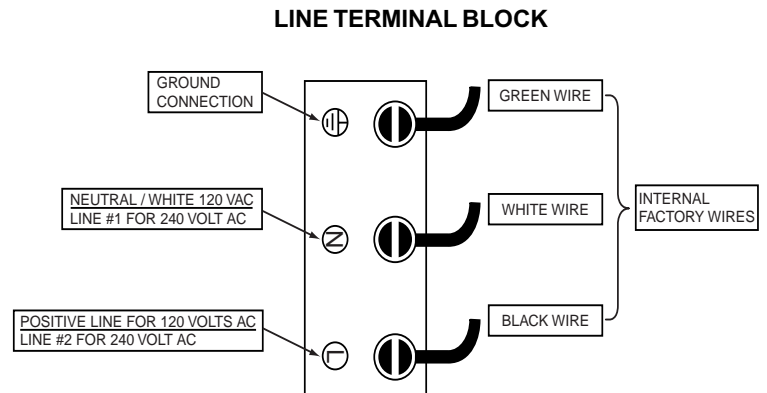

Figure 2.
When connecting the home wiring to the "Line Terminal Block" inside the junction box, follow the polarity as shown below. Connecting to 120 VAC, make sure that you connect the positive wire to the positive terminal (L), the neutral wire is connected to the neutral terminal (N) and the ground is connected to the ground terminal (GND); see below, Figure 2.